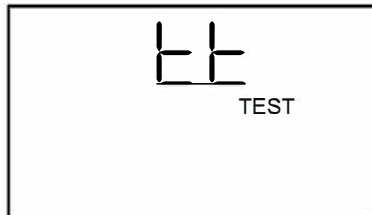

Figure 24. Test Tone Display Screen
3. Press the **TEST OPTIONS** button two times to activate the Test Tone display screen. It should look like Figure 24.